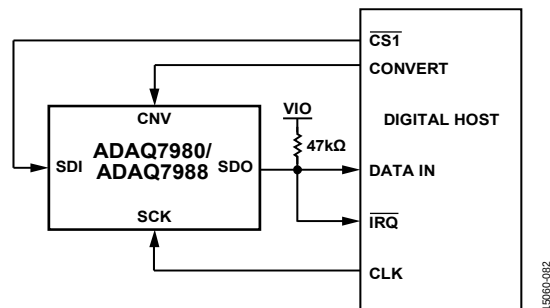
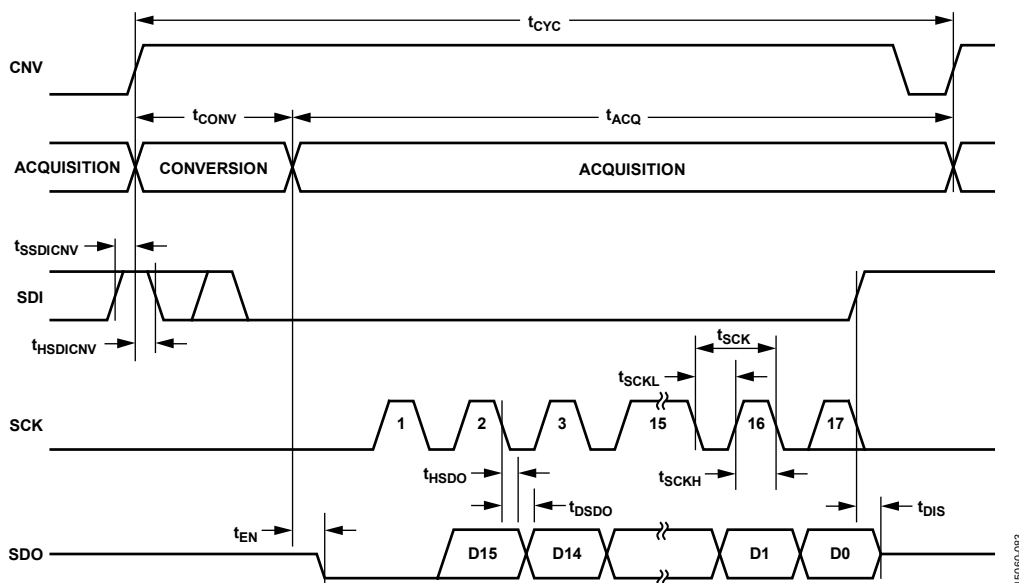

Figure 77. 4-Wire $\overline{\text{CS}}$ Mode with the Busy Indicator Connection Diagram
Figure 78. 4-Wire $\overline{\text{CS}}$ Mode with the Busy Indicator Serial Interface Timing
- In $\overline{\text{CS}}$ mode if CNV or SDI is low when the ADC conversion ends (see Figure 74 and Figure 78).
Figure 77 shows the connection diagram, and Figure 78 shows the corresponding timing.